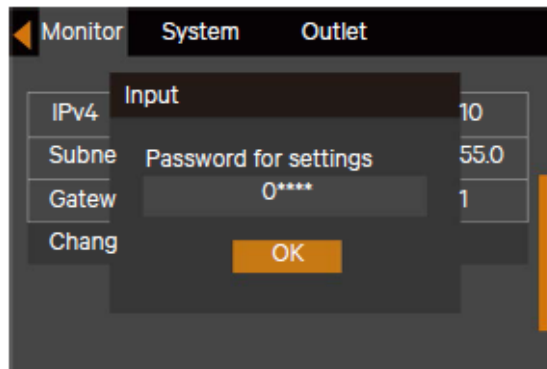

Figure 5-20 Password for settings
3. Press the  key, the interface shown in Figure 5-20 will appear.